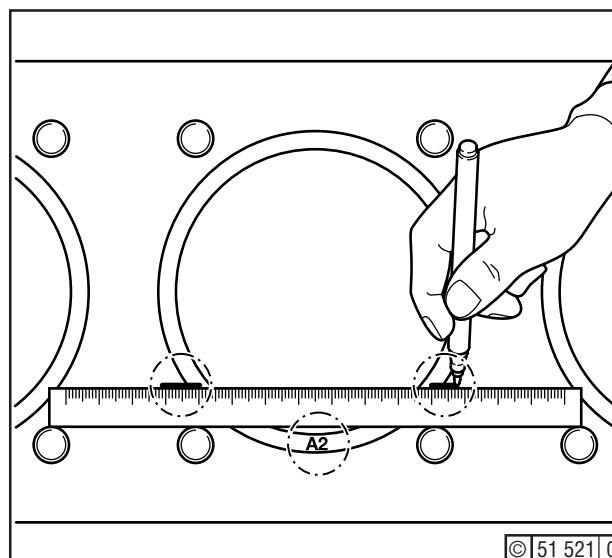

Fig. 1 Marking the refitment position
- Place a straight edge on the cylinder lining collar, against 2 special cheese head screws, Fig. 1.
- Mark the cylinder lining with the cylinder designation, e.g. A2 in Fig. 1.